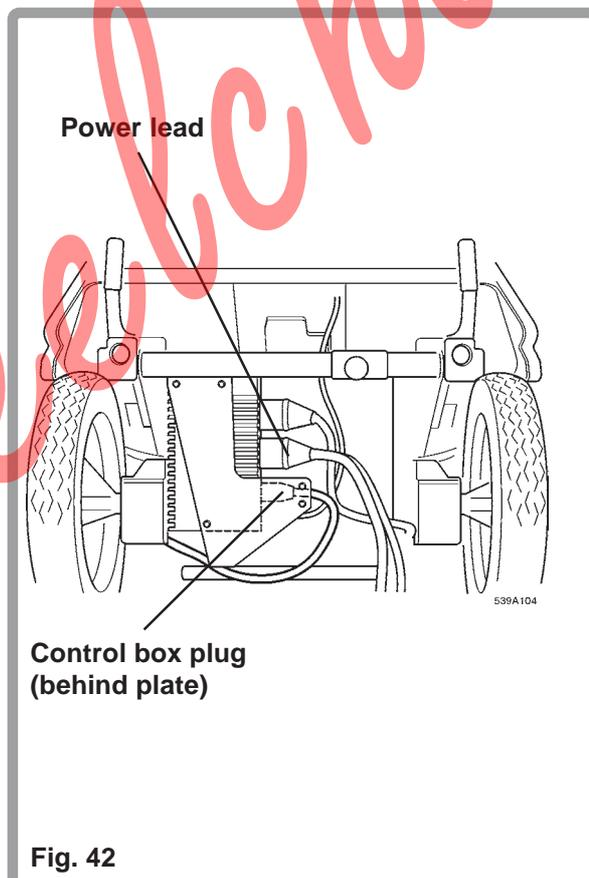

Fig. 42
- 5 Disconnect the control pod from the power unit by unplugging the control cable from the control box (Fig. 42).
- 7 Disconnect both battery plugs (Fig 42).